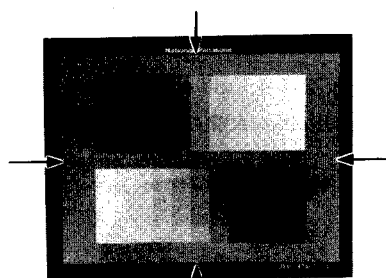

Fig. 1-1
- Logarithmic Gray Scale Chart ( Part Number: YWV2310RB99) as shown in Fig. 1-1.